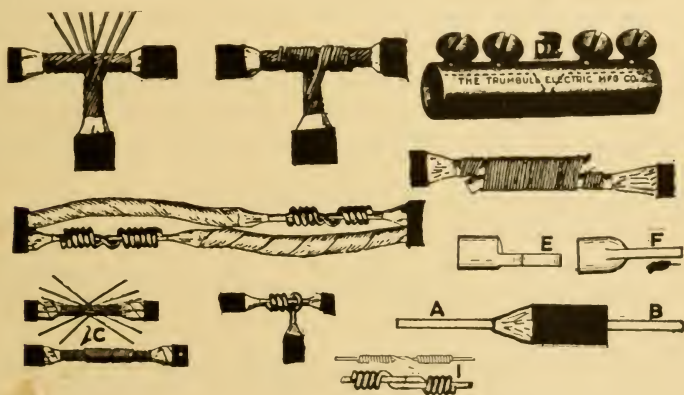

FIGURE 29
that you will not cut into the wire. (96) Scrape the wire ends perfectly clean and twist them together tightly as shown in the last illustration of Fig. 29. (97) Then, being careful not to heat them too hot during the process (which tends to raise its resistance) and using an approved solder flux, solder them tightly together and (98) wrap the completed splice first with rubber and then with insulating tape to the thickness of the original insulation.
In Fig. 29 we see various methods of making splices. One is called the Western Union Joint. A shows the proper way to remove the insulation for splicing. B is the way to do it when installing a lug. Whatever method you use in binding the wires together, (99) it must be mechanically perfect before filling with solder.